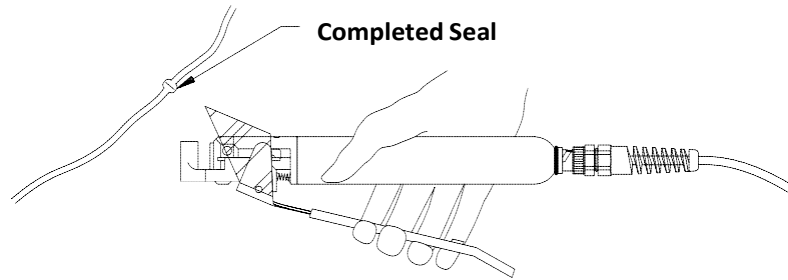

Figure 3-7, Releasing the Sealing Head Lever at Seal Completion
3. The seal is completed in approximately one second, as indicated when the light on the Sealing Head goes out one second after the lever may be released. *Another seal cannot be made until the moveable lever has been fully opened.* See Figure 3-7, Releasing the Sealing Head Lever at Seal Completion. At this time the tubing segments can be easily separated by manually turning and pulling with a slight snap.